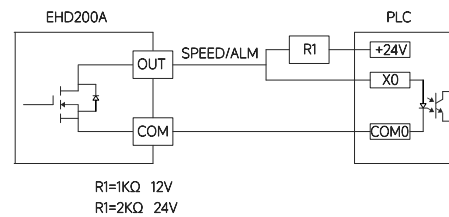

Figure2
- Alarm output (default output mode): When the speed controller doesn't work, the motor will stop working, and the corresponding alarm code will be displayed on the display screen. When the OUT output port is set as alarm output, OUT and COM will be connected at this time , the OUT port is low level --- Figure 2
- Speed output: When the motor is running, it will synchronize with the current motor speed and output the corresponding frequency 1RPM=1HZ (need to contact sales for setting)---Figure 2.